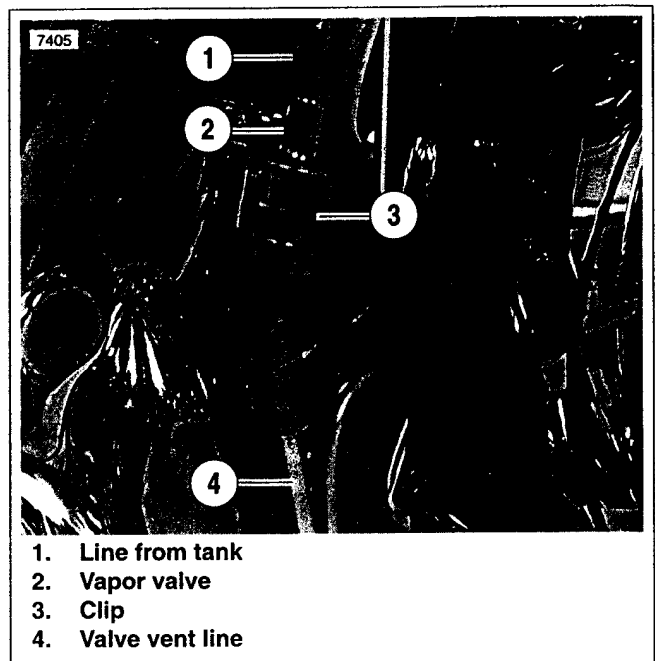

Figure 4-13. Vapor Valve Installation (Typical)
See Figure 4-13. The vapor valve (2) is clipped to the frame member just ahead of the fuel tank. Mark the two hoses (1, 4) connected to the upper and lower fittings of the vapor valve before removing it from its clip (3). When installing the vapor valve, place the valve back into the clip with the long necked end at the top.